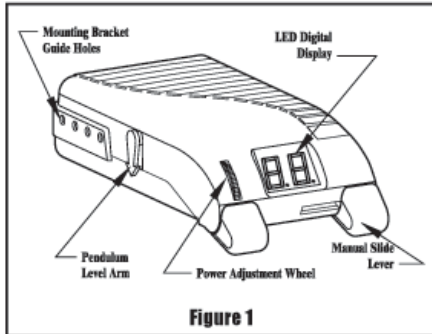

Figure 1
The manual slide lever (Fig. 1) located on the front right side of the controller is used to apply the trailer brakes independently of the tow vehicle brakes or to override the automatic trailer brakes. The further the manual slide lever is moved from the right to the left, the greater the amount of trailer braking effort applied. The manual lever operation is an independent circuit and overrides the power wheel adjustment to allow full braking effort when required.
increased brake pedal effort, the pendulum magnet (Fig. 3) pulls away from the pendulum hall device and sends an electrical signal for the controller to increase amperage to the trailer brakes. The trailer brakes will apply in direct proportion to the tow vehicle braking effort. The controller display (Fig. 1) will increase numerically during a stop and will return to the minimum reading (near 1.4) when deceleration is no longer detected. When the tow vehicle brake pedal is released, the display will go off.
- 4) Pull the pendulum leveling arm (Fig. 1) toward the display. The display should increase in numerical value.
- 7) Move the controller manual slide lever (Fig. 1) to the left, the controller display must increase in numerical value and the tow vehicle stop lamps must illuminate.
The power wheel (Fig. 1) is located on the front left side of the controller and is used to adjust the amount of current to the trailer brakes for obtaining smooth, proportional and optimum tow vehicle and trailer brake response. To increase the amount of current required, rotate the power wheel upward toward the top of the case. To decrease the amount of current required, rotate the power wheel downward toward the bottom of the case.
To adjust the power wheel (Fig. 1) setting with the trailer connected.
- 4) The controller display (Fig. 1) will increase numerically during a stop and will return to  the minimum reading (near 1.4) when deceleration is no longer detected. When the tow vehicle brake pedal is released, the display will go off.